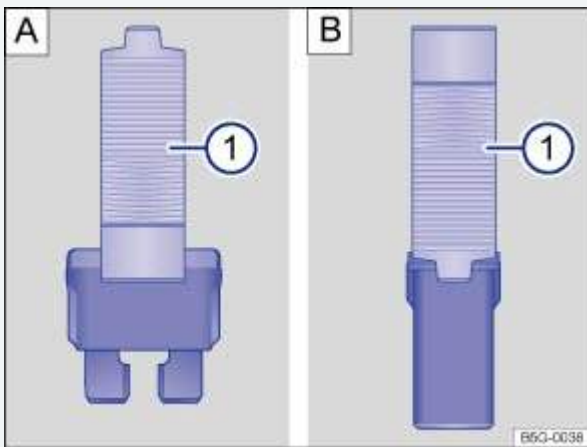

Fig. 234 Removing or installing a blade fuse with the plastic tweezers: : Blade fuse. : JCASE® fuse.
- Depending on the type of fuse, slide the tweezers ⇒ *Fig. 234* **A** ① or ⇒ *Fig. 234* **B** ① onto the fuse from the side.